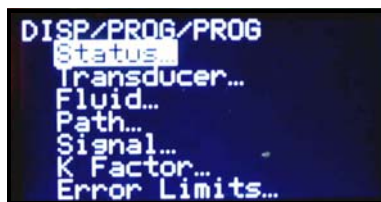

Figure 44: The PROG Menu
3. Use the [▲] and [▼] keys to scroll to the desired channel and press [ENT]. The screen appears similar to Figure 44 below.